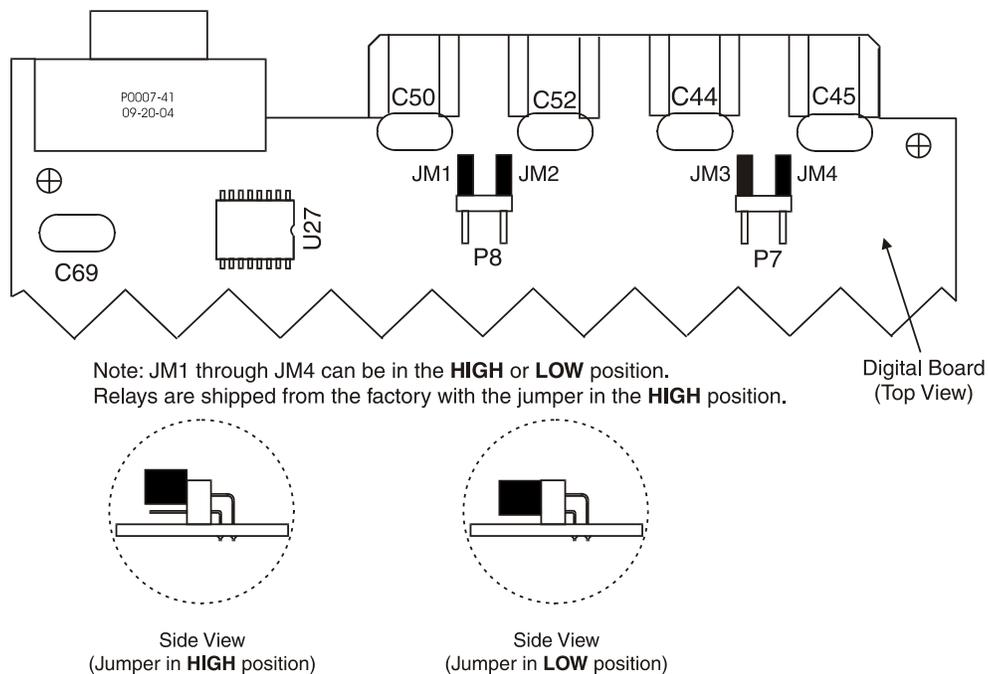

Figure 12-1. Contact-Sensing Jumper Locations
2. Locate the two jumper blocks that are mounted on the Digital Circuit Board. The Digital Circuit Board is the middle board in the assembly and the jumper terminal blocks are located on the component side of the circuit board. Each terminal block has two sets of pins. With the jumper as installed at the factory, one pin should be visible when viewed from the side of the unit. This configuration allows the inputs to Operate at the higher end of the control voltage range. Figure 12-1 illustrates the location of the jumper terminal blocks as well as the position of a jumper placed in the high voltage position.